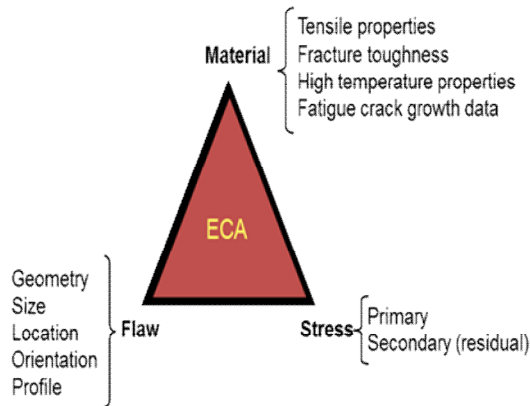

Figure 3. ECA triangle and associated input data
- Engineering Criticality Assessment (ECA) (Figure 3) of subsea systems at presence of crack-like weld flaws at extreme loading or environmental conditions such as Reeling installations, High Temperature and High Pressure operations and exposure to the hostile environments such as sour (high level of H₂S) and sweet corrosion (CO₂ corrosion).